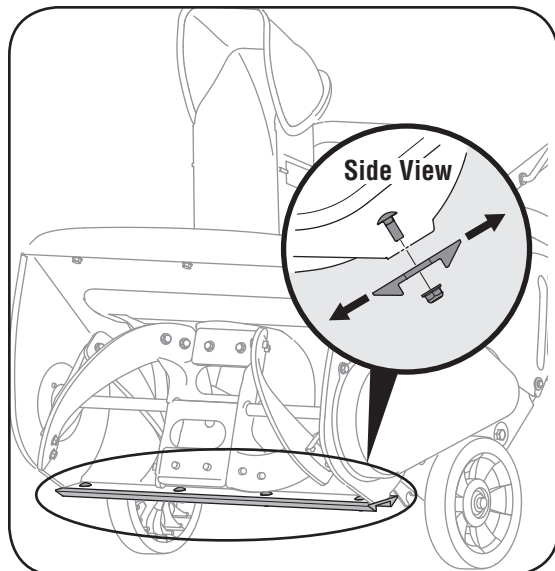

Figure 7
2. To adjust, tip the snow thrower back so that it rests on the handle. Loosen the four lock nuts and bolts which secure the shave plate to the housing. See Figure 7. Move the shave plate to desired position and retighten the nuts and bolts securely.
The shave plate is attached to the bottom of the auger housing and is subject to wear. It should be checked periodically. There are two wearing edges and the shave plate can be reversed. Refer to Figure 7. To replace or reverse the shave plate proceed as follows: